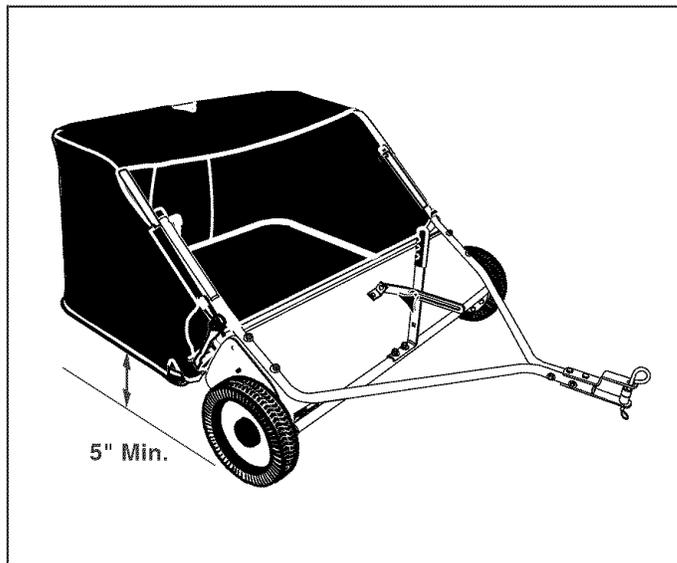

FIGURE 23
STEP 16: (SEE FIGURE 23, 24 AND 25)
IMPORTANT: For best performance, the bottom of the sweeper bag should be approximately level and 5" to 7" off the ground as shown in figure 23.